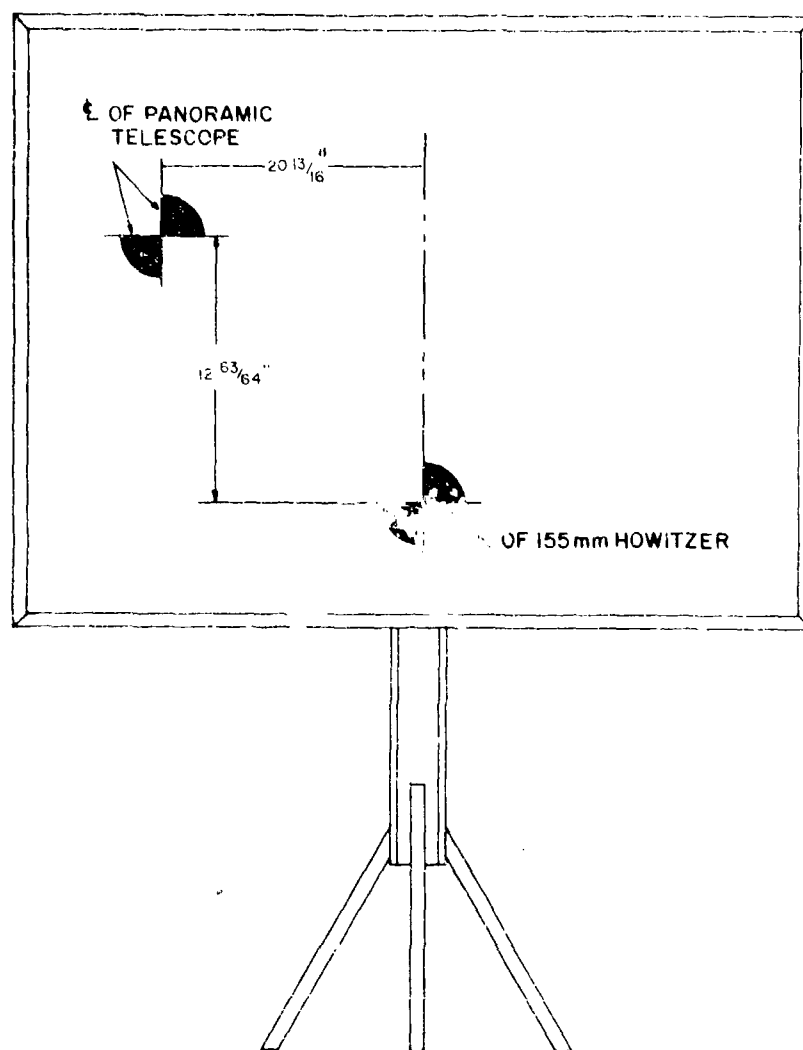

Figure 5-34. Testing target and stand.
g. Place the breech and muzzle boresights in their proper positions. Place the testing target (fig 5-34) at least 50 meters in front of the weapon. Aline the proper aiming diagram with the line of sight through the tube (move the testing target and not the tube for this operation). If the trunnions of the howitzer are slightly canted, the testing target must be canted an equal amount in the same direction.